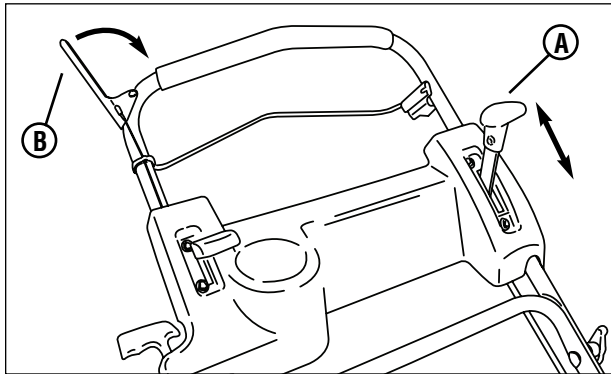

Figure 5: Mower drive controls
2. Move the ground speed control **(A, Figure 5)** to the desired speed position.